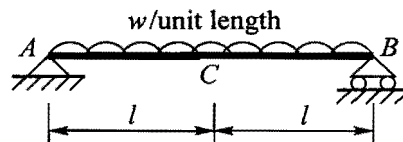

Figure 5
7. Figure 5 shows a simply-supported beam, AB , of length $2l$, carrying a uniformly distributed load, w /unit length. Use Virtual Work to determine the vertical deflection, v_C , of C , the mid-point of AB . Check your result with the Structures Data Book.